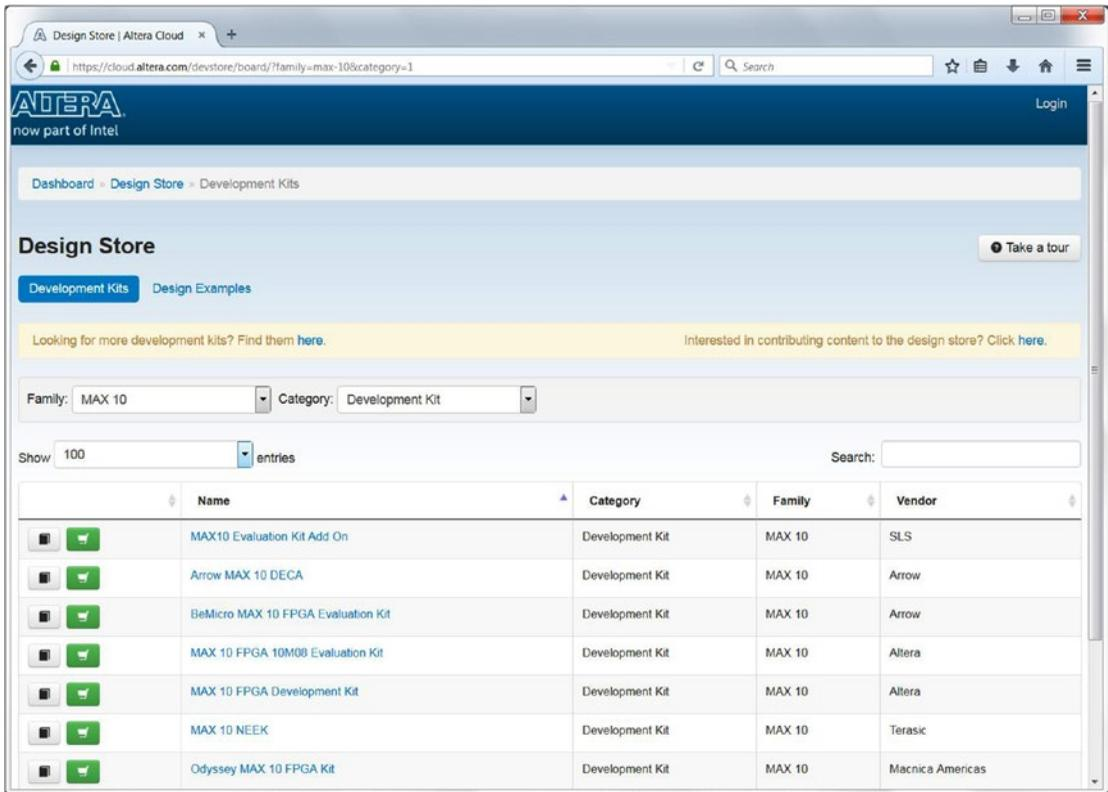

Figure 4-7. Altera Design Store with selected Family: MAX10 and Category: Development Kit
7. Select the information shown in the Design Store web page in Figure 4-7:
8. Click the **BeMicro MAX 10 FPGA Evaluation Kit** in the page as Figure 4-7 shows.